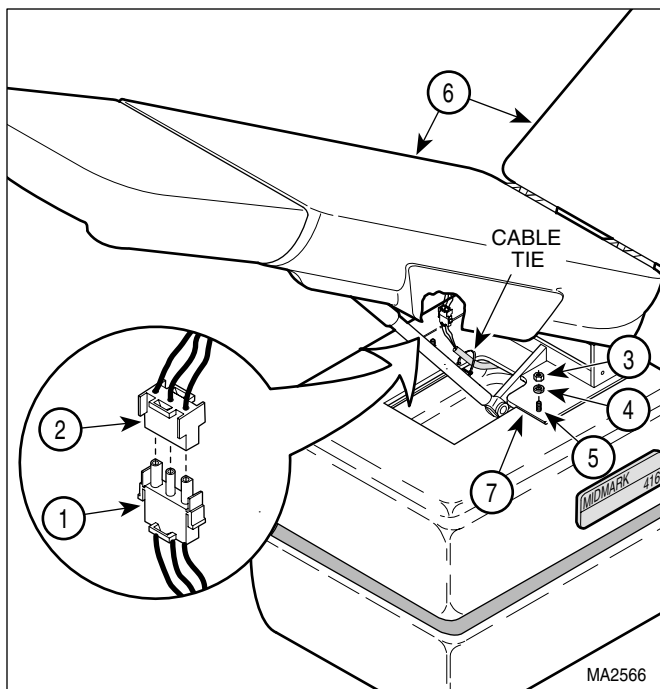

Figure 4-2. Table Top
- (2) Unplug power cord from wall outlet.
- (3) Unplug power cord wire harness (1, Figure 4-2) from wire harness (2).
- (4) Cut cable tie which is securing wires/wire harness to table top.
- (5) Remove four nuts (3) and lockwashers (4) from studs (5).